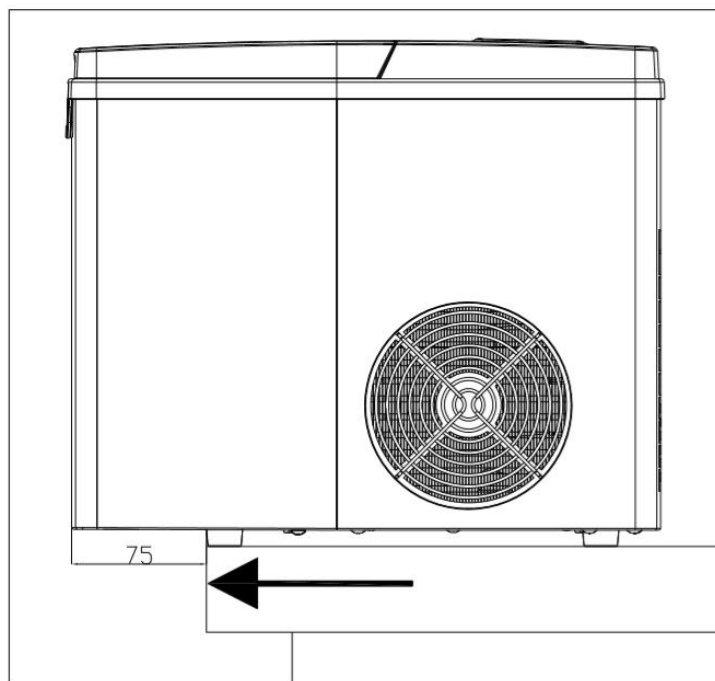
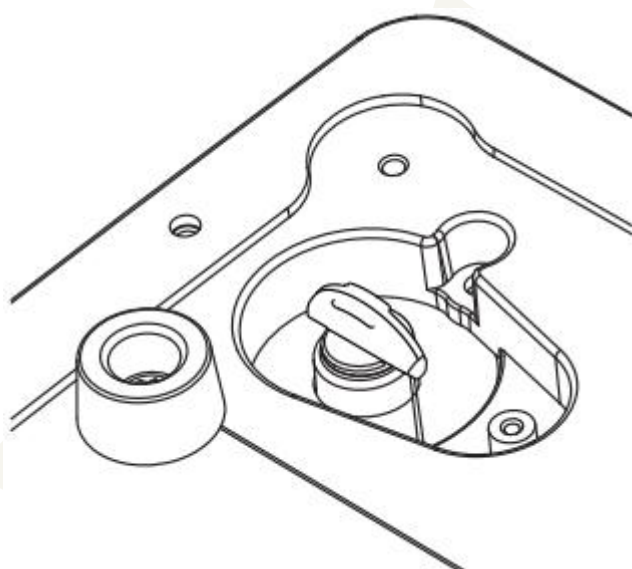
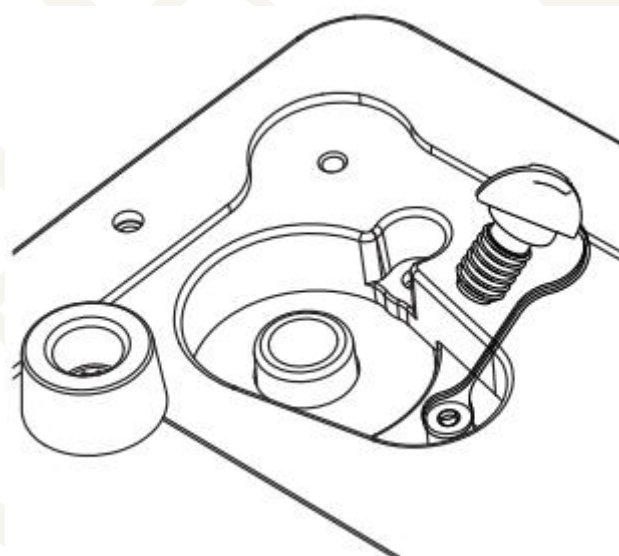

Fig.3
Fig.4
Fig.5
3. Move the appliance forward for 75mm and open the drain plug to drain out excess water (see Fig.3, Fig.4 and Fig.5)